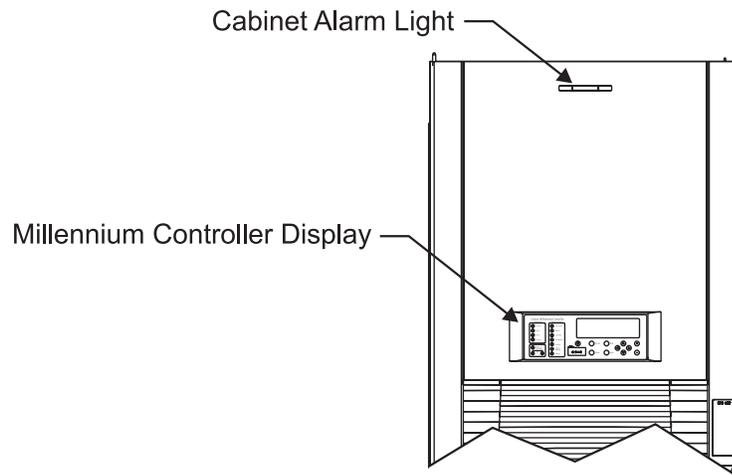

Figure 12-1: Location of Cabinet Alarm
1. Locate the system Galaxy controller. The controller is typically located in the cabinet identified as BAY ONE. Because a trouble condition exists, the red alarm on the top of the cabinet will be illuminated. See Figure 12-1.